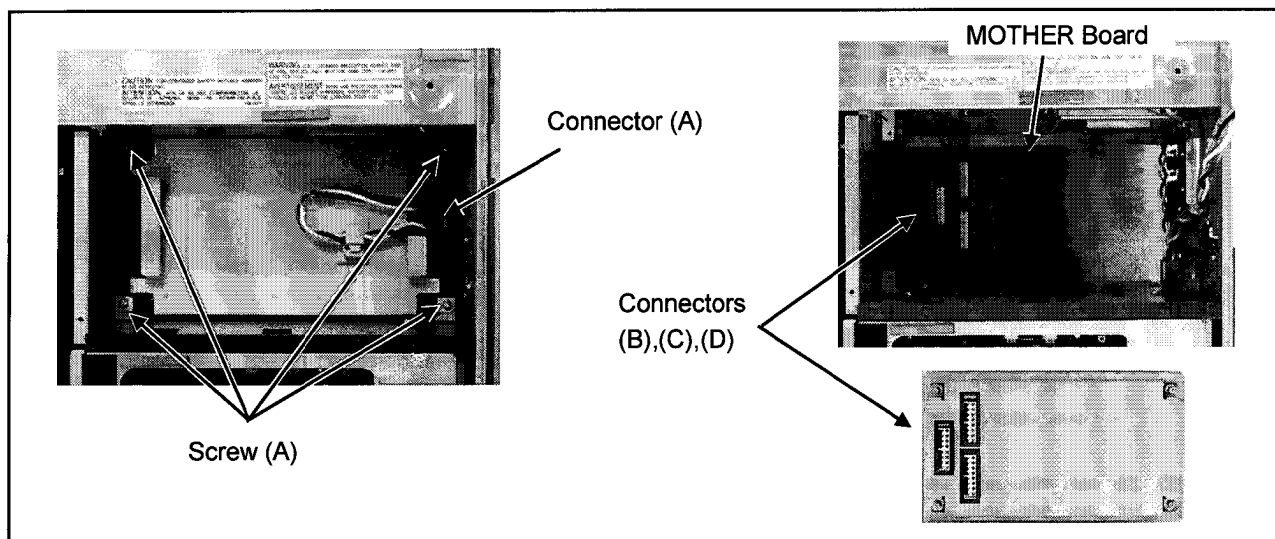

Figure 12-1
2. Disconnect a connector (A) and unscrew the 4 screws (A) as shown in figure 12-1.
3. Disconnect a connectors (B), (C) and (D) combined with the MOTHER P.C.Board as shown in figure 12-1 and remove the Power unit.
1. Combine the connectors (B), (C) and (D) and install the power supply unit with 4 screws (A) shown in figure 12-1.